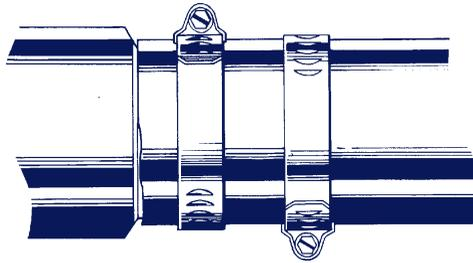

FIG. 14 – PROPER JUBILEE CLIP INSTALLATION.
- Make sure jubilee clips are offset from each other when tight. (Fig. 14)